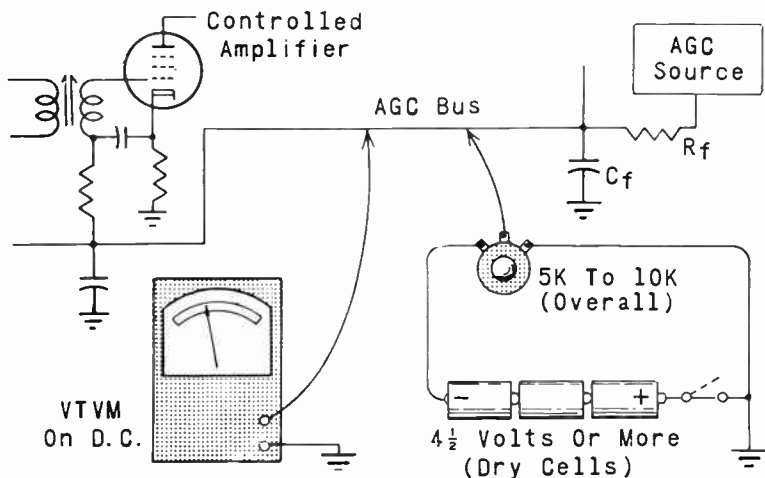

Fig. 5-6. Measuring agc voltage and determining whether voltage is too high or too low.
Leaving the VTVM on the age bus, connect an adjustable battery bias to the bus as in Fig. 5-6. Use dry cells in series, or a single battery, to provide a total of  $4\frac{1}{2}$  to 9 volts. Across the battery connect a potentiometer having total resistance of 5K to 10K ohms. Connect the positive side of the battery to chassis ground or B-minus. Use a switch at one end of the battery to prevent discharge while the apparatus is not in use. Connect the potentiometer slider to the age bus on the side of the filter resistor away from the age source.
**19-20.** If decoupling resistances are on the order of 50K ohms or more a defective decoupling capacitor will chiefly affect that part of the bus connected to the capacitor. With test connections as in Fig. 5-6, temporary disconnection of one end of a faulty capacitor will allow voltage to become more negative. Disconnecting a good capacitor will not affect test voltage.